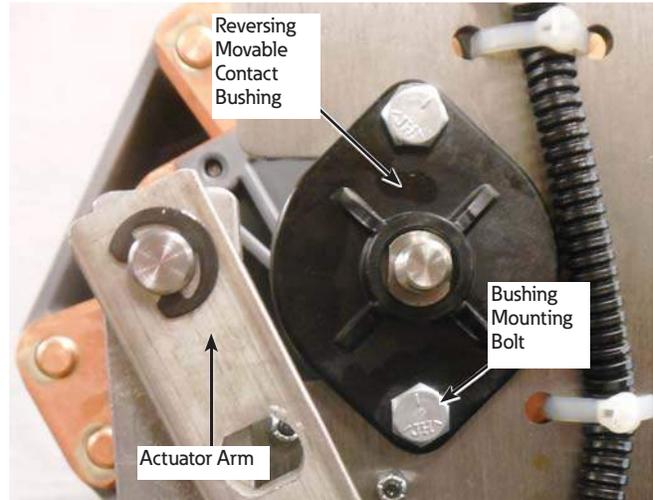

**Figure 28. Reversing switch and hardware**
2. Using a 9/16" wrench loosen and remove the reversing actuator arm nut. See Figure 28.